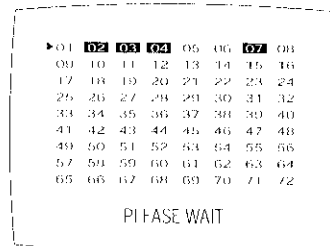

Fig. 6-4
- 6) After selecting the option number is completed, press the "ENTER" button of remote control. (If "ENTER" button is pressed, the selected number is changes color. ; See Fig. 6-4)